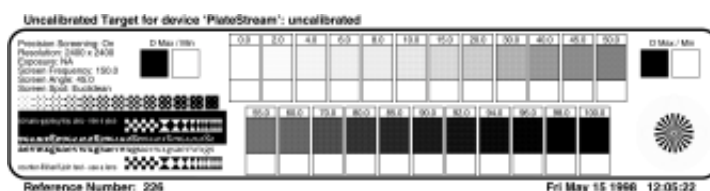

Figure 2: Calibration Target
1. Select **Print Calibration** to print an uncalibrated target (see Figure 2).